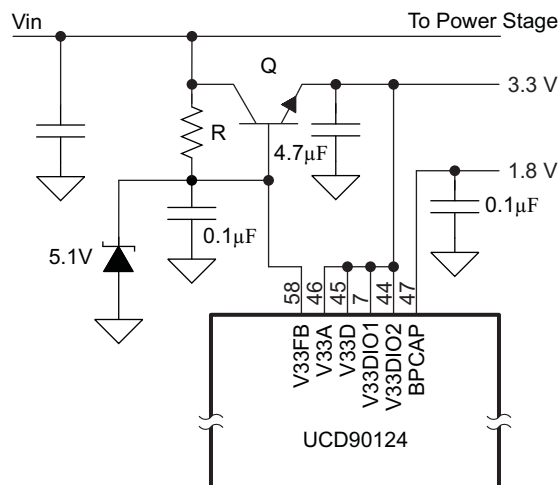

Figure 28. High-Voltage Supply With External Transistor
3.3-V regulator, or it can be generated from a higher voltage using a built-in series regulator and an external transistor. The external transistor must be an NPN device with a beta of at least 40 and a V_{CE} rating appropriate for the high supply voltage. Figure 28 shows a typical circuit using the external series pass transistor. The NPN emitter output becomes the 3.3-V supply for the chip. A 4.7- μF bypass capacitor is required to stabilize the series regulator.